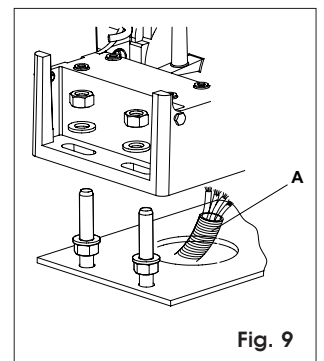

Fig. 9
- 2) Place the operator on the plate, using the supplied washers and nuts as shown in figure 9. When doing this, route the cables through the appropriate hole on the reduction body of the operator (Fig.9 ref.A).